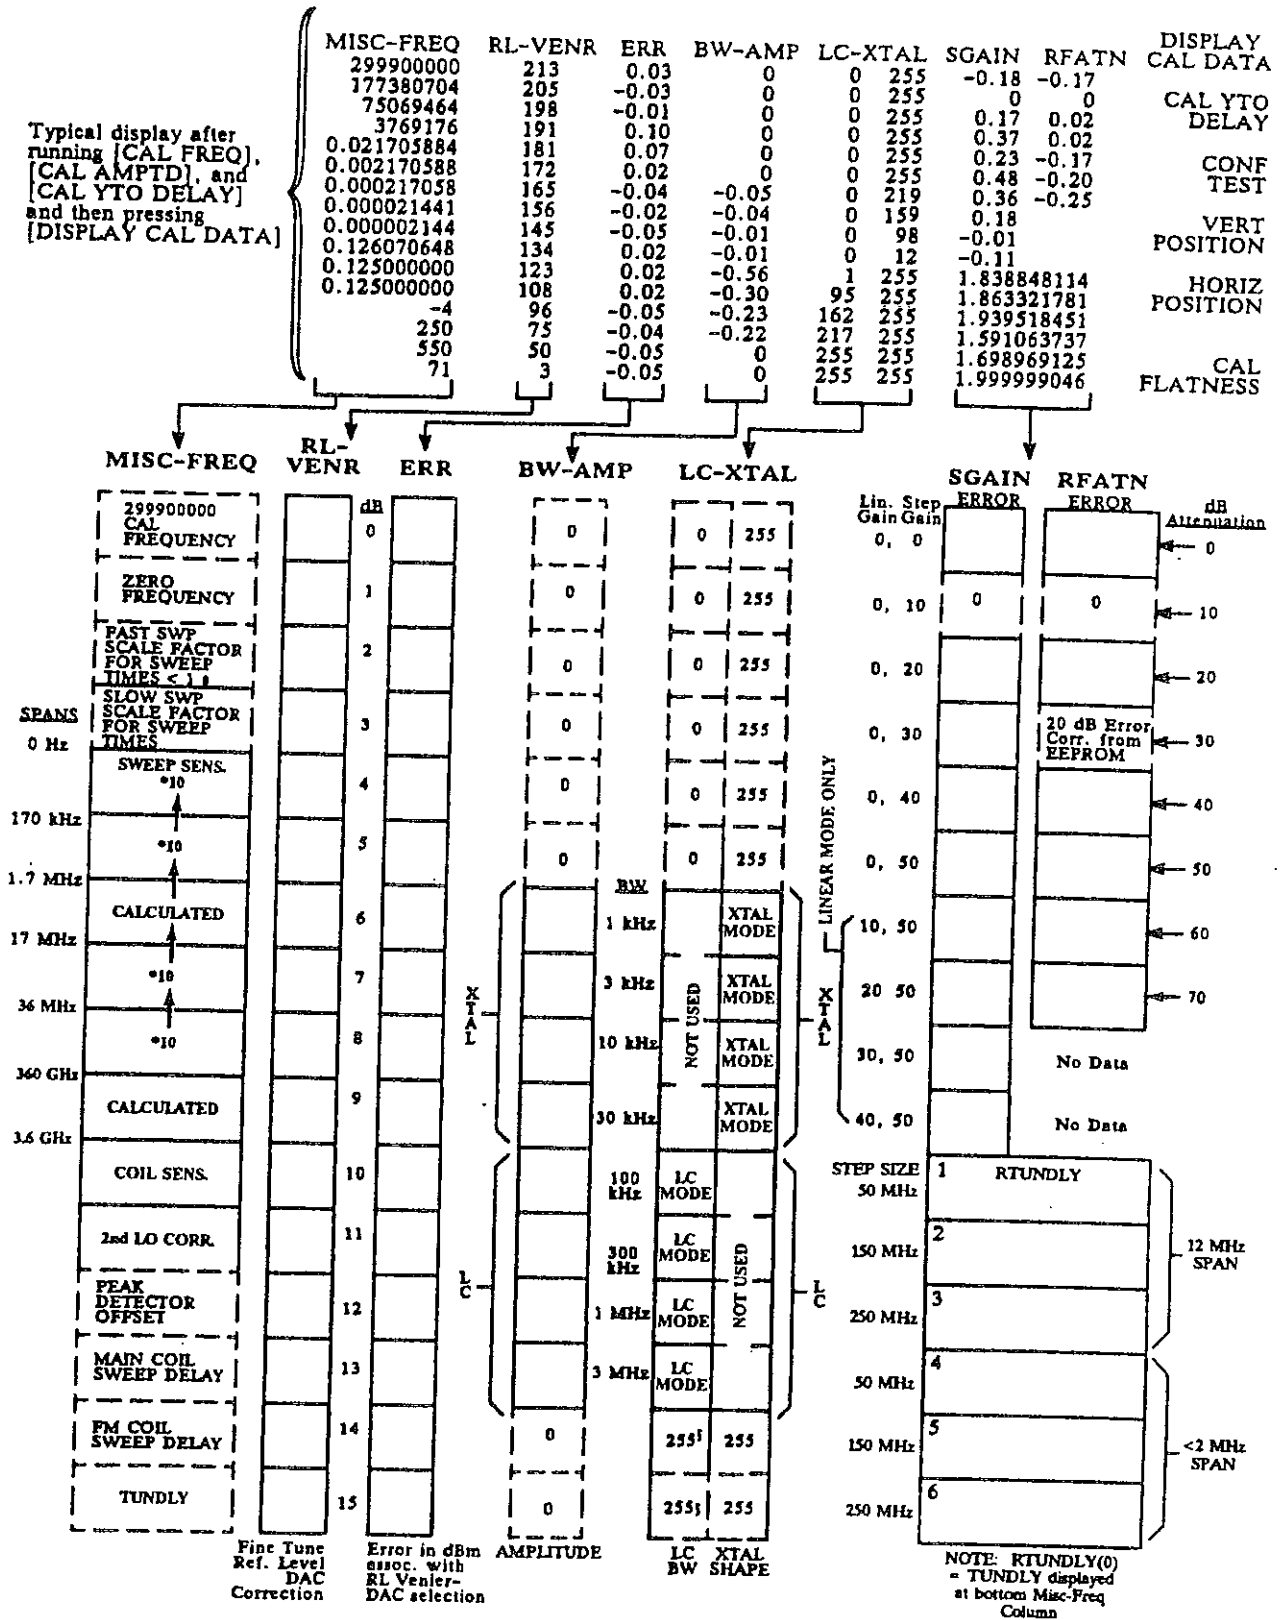

Figure 4-3. Explanation of Calibration Data Display
Figure 4-3 shows a sample CAL data display and a "map" of the data.
If the instrument has proper gain steps along the signal path, this DAC (RL_VENR column) should display the nominal range shown in the example in Figure 4-3.
4. Check to see that the 20 dB attenuator flatness error has been correctly entered (refer to Figure 4-3).
6. Check to see that flatness calibration data has been correctly entered (refer to Figure 4-3).